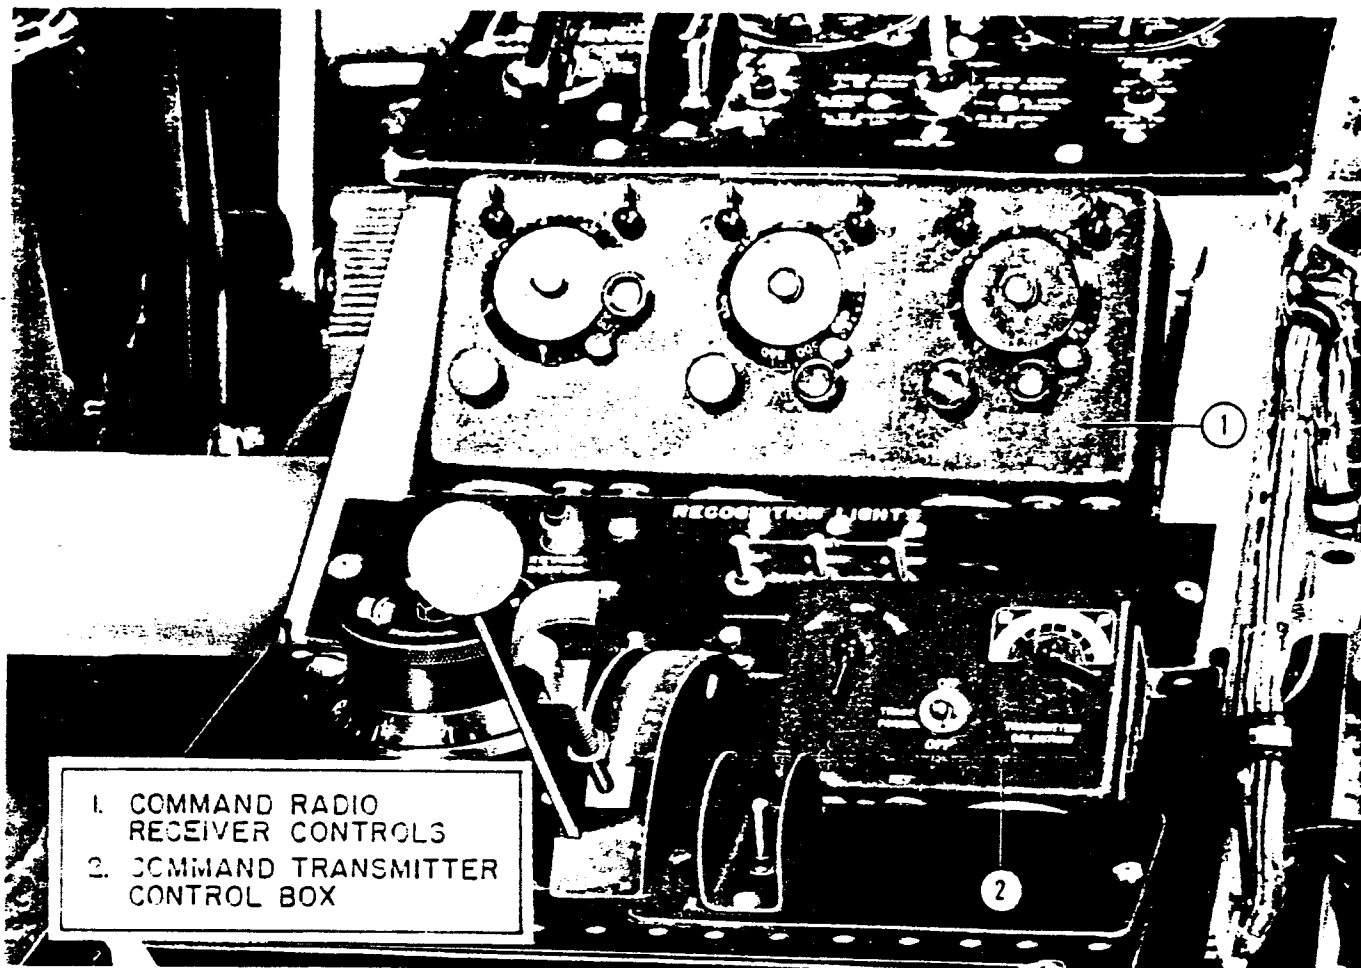

Figure 4. SCR-274N Radio Controls
a. COMMAND RADIO SCR-274N.- The command set is comprised of two transmitters and three receivers. A remote radio receiver control box and a transmitter control are situated on the pedestal between the pilot and copilot. (See figure 4.)
(1) OPERATION OF RECEIVERS.